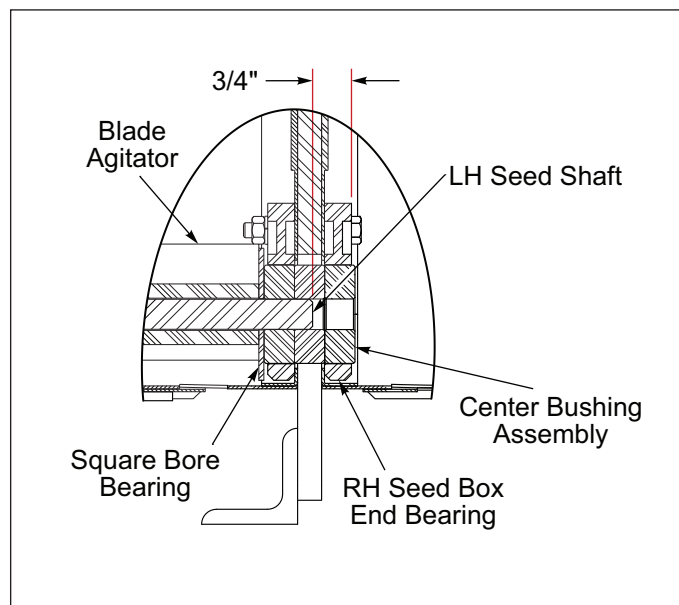

Figure 2-59: Agitator Dimension Detail
7. Reinstall LH Seed Shaft aligning Square Bore Washers, Agitators, Bushings, and Transmission Drive Coupler. Verify Seed Shaft to Transmission Drive Coupler engagement. Measure the distance from the end of the LH Seed Shaft to the center RH Seed Box End Bearing. It should be approximately 3/4". **See Figure 2-59.**